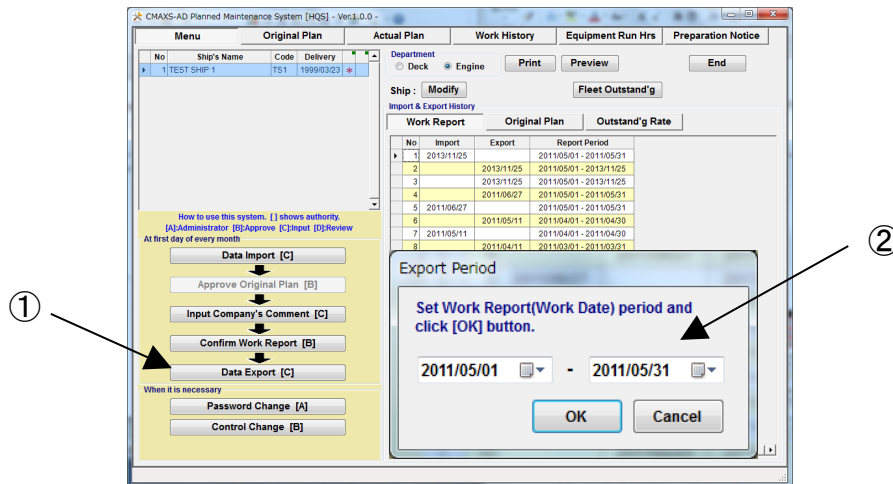

Fig.5-3 Menu Screen
- (1) On the "Menu Screen"(Fig.5-3), select [Data Export].